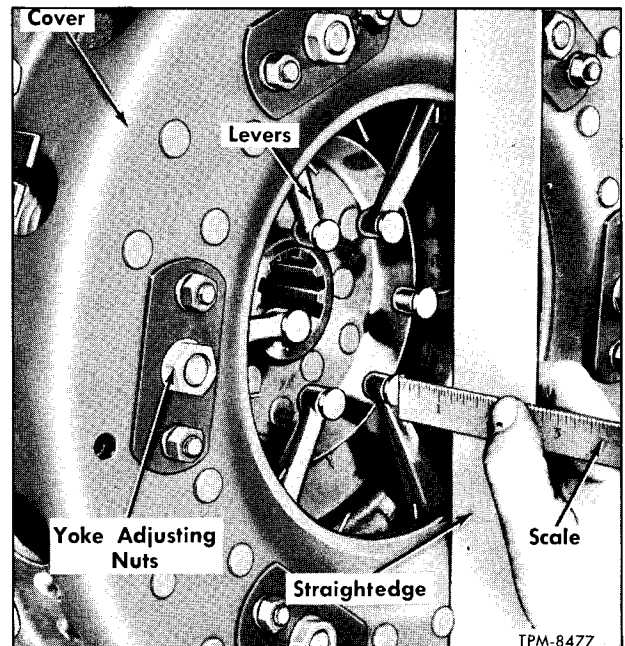

Figure 13—Checking Release Lever Button Position With Scale and Straightedge
use straightedge and scale (fig. 13) to check position of release lever buttons (23). With unworn parts, the surface of release lever buttons must be 1-3/8 inches below cover surface. All levers must be in same plane within 0.030 inch. Position of levers can be changed by turning yoke adjusting nuts as required.